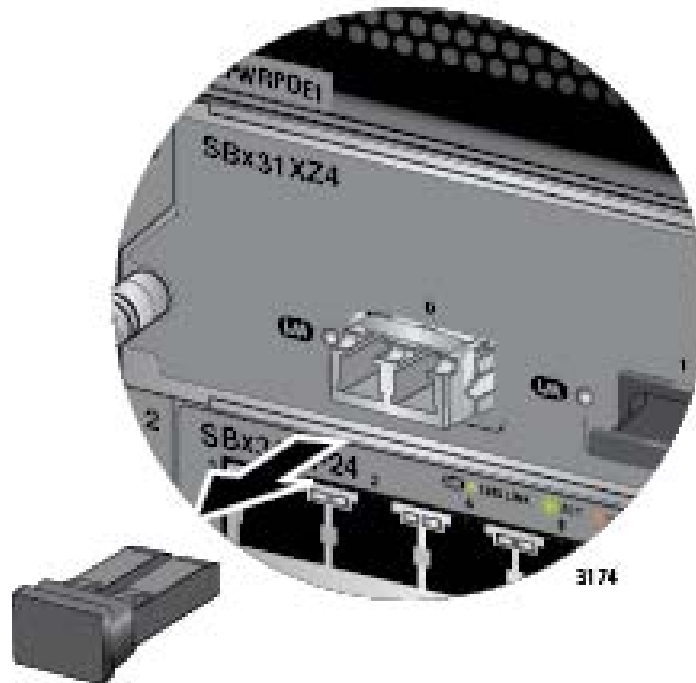

Figure 102. Removing the Protective Cover from an XFP Transceiver in the AT-SBx31XZ4 Line Card
5. Remove the protective cover from the fiber optic port on the XFP transceiver, as shown in Figure 102 on page 164.